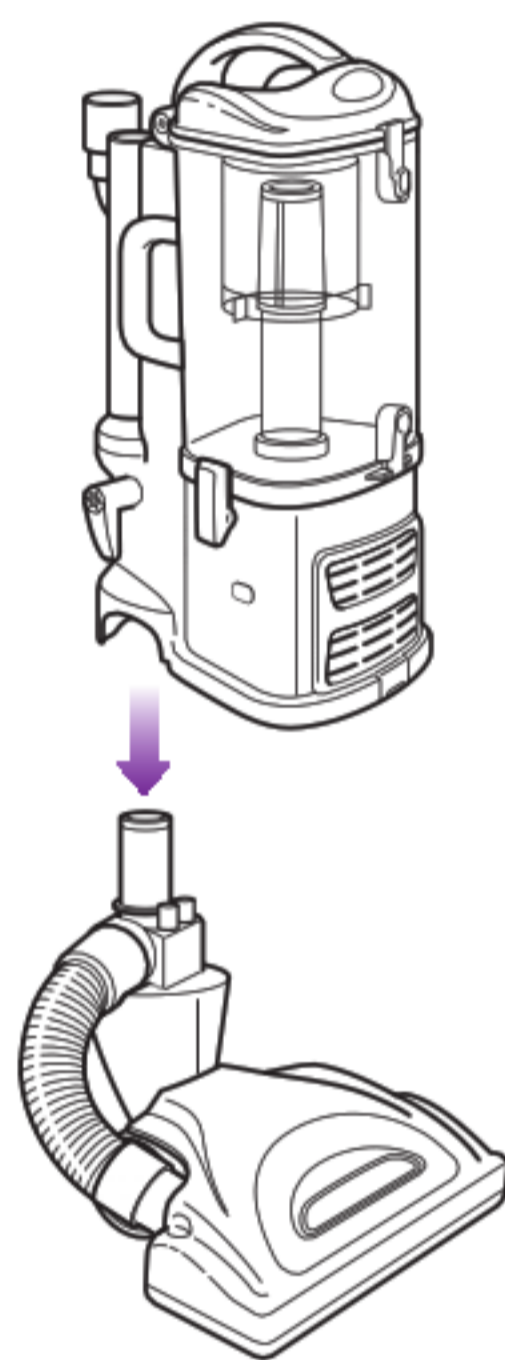

Fig. 8
- 2 Align the tube of the floor nozzle with the tube on the *Lift-Away*® canister and lower until you hear the two pieces click into place. **(Fig. 8)**